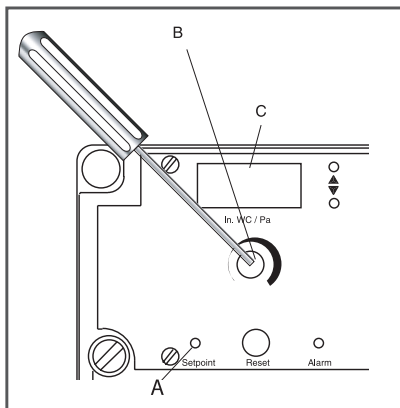

Fig. 14
1. Press the set-point button continuously with a pen or screwdriver (fig. 14). The pressure setting will now show on the display. Use the potentiometer to set the required draft in WC/Pa on the display (fig. 14). Release the set-point button; the actual draft will now show up on the display.